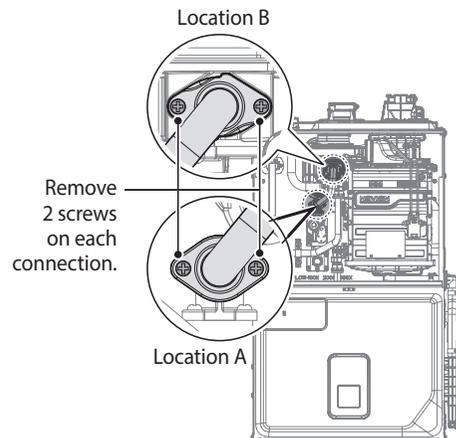

Figure 3. Detaching the Gas Valve Outlet Adapter from the Gas Valve and Fan Motor Assembly
5. Remove the two screws using a Phillips-head screwdriver at location A – the connection above the gas valve where it connects to the gas valve outlet adapter. See Figure 3 for reference.